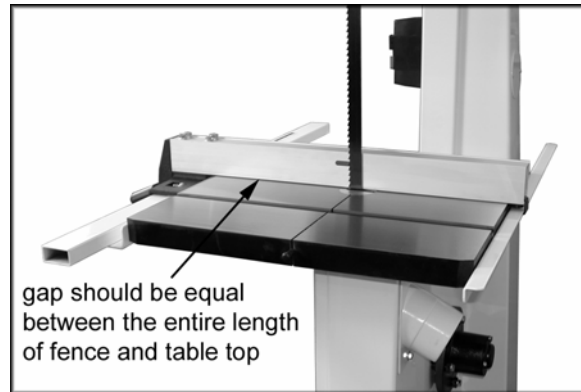

Figure 11
4. Check the clearance between the table and the fence. The gap should be the same at the front of the table as it is at the rear. If the gap width is different, adjust the foot at the rear of the fence until the gap width is the same, Figure 11.